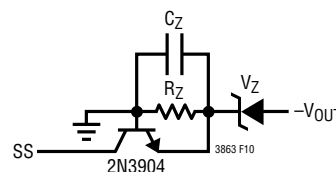

Figure 10.
- To protect against the V_{FBN} open condition it is necessary to add an output shutdown clamp. The output shutdown clamp is comprised of a Zener, V_Z , NPN and Zener bias resistor, R_Z , to ground as found in Figure 10. The clamp voltage will be the Zener forward voltage V_Z plus a V_{BE} . The clamp needs to be designed such that the worst-case minimum Zener voltage is less than the maximum operating voltage. The worst-case Zener leakage current times the Zener bias resistor should not exceed 200mV.